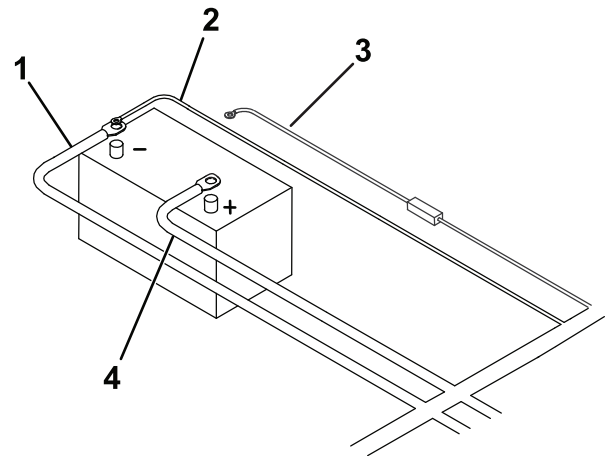

Figure 3
16. Connect the free end of the battery cable to the positive (+) battery terminal (Figure 3).
17. Connect the red/white fused wire to the positive (+) battery terminal (Figure 3).